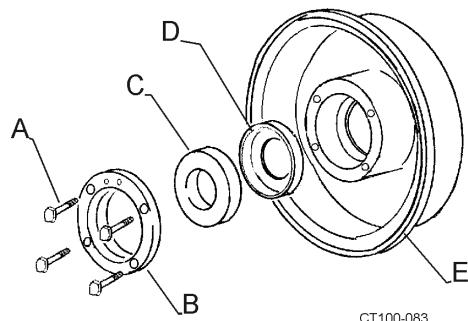
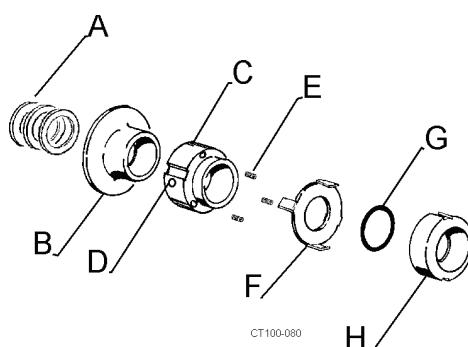

Figure 30 - Stationary Seal Assembly
Figure 32 - Type 1 Seal Assembly
1. Lightly lubricate both sides of the L-gasket (Figure 30, item D) with a sanitary lubricant and insert into the backplate seal cavity.
2. Place the stationary seal into the L-gasket. (See Figure 30, items C and D).
3. Place the seat retainer over the stationary seal and secure the retainer with four 1/4-20 x 1/2 inch hex head cap screws. (See Figure 30, items B and A).
4. Slide the tabbed washer (Figure 30, item F) over the impeller shaft and engage the tabs of the washer into notches on the outside of rotary seal. (See Figure 32, items F and H).
5. Install the three seal springs into the holes in the spring retainer (See Figure 32, items C and E). Hold the springs in place with RTV silicone sealant.
6. Slide the spring retainer over the impeller shaft until the slots in the spring retainer engage the drive tabs on washer and the springs rest against the washer. See Figure 32.
8. Lock the spring retainer in place by tightening the set screws. (Figure 32, item D).
9. Install the deflector onto the impeller shaft (Figure 32, item B).